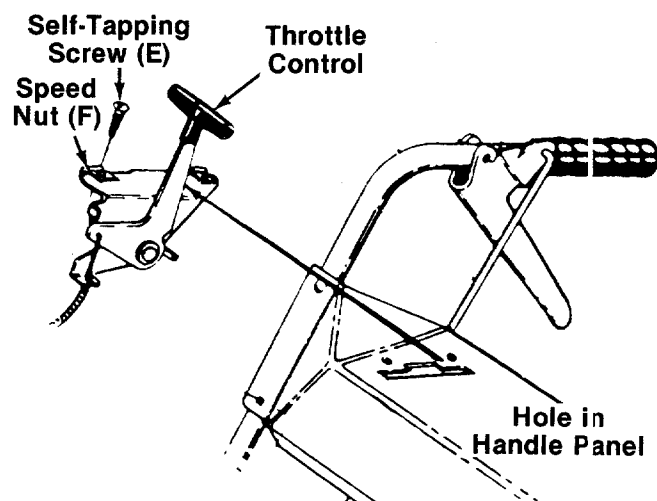

FIGURE 3.
Place the speed nuts (F), flat side up, onto the throttle control. Place throttle control lever up through the hole in the handle panel. Secure with self-tapping screw (E) as shown in figure 3.